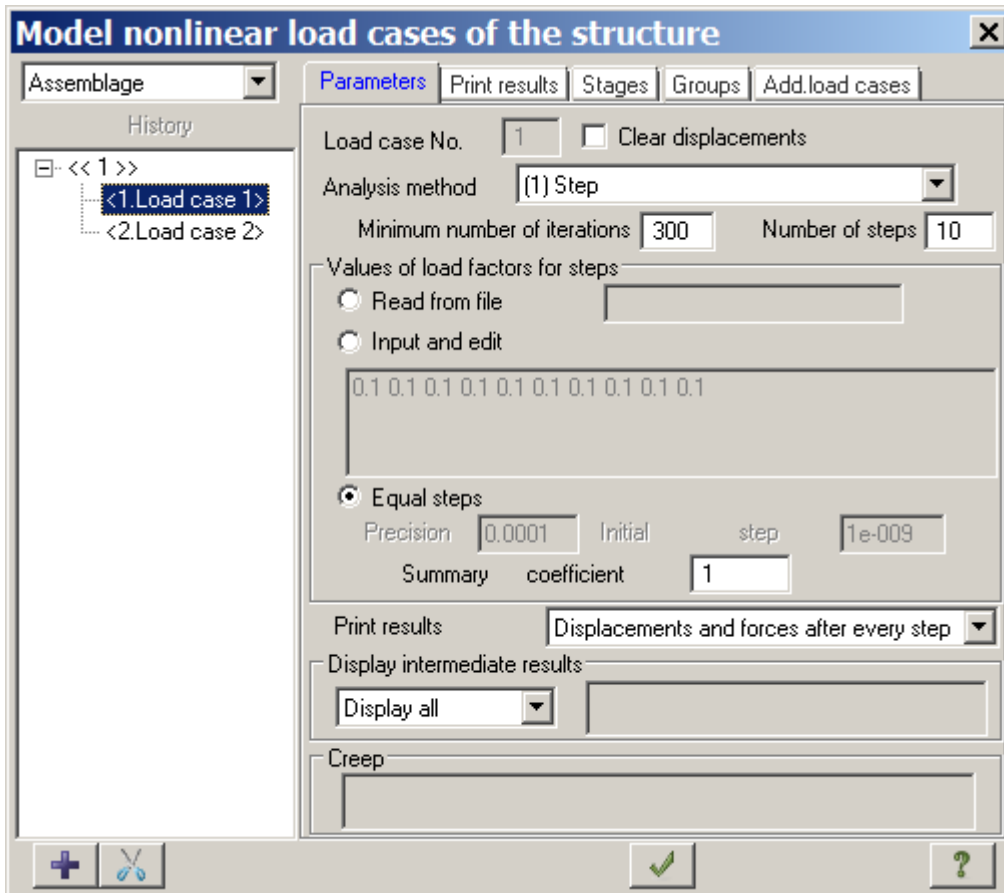

Figure 16.19 **Model nonlinear load cases** dialog box for defining parameters of nonlinear load cases
- ⇒ For the first load case define the following parameters (see Fig.16.19):
- select **Step (1)** in the **Analysis method** list box;